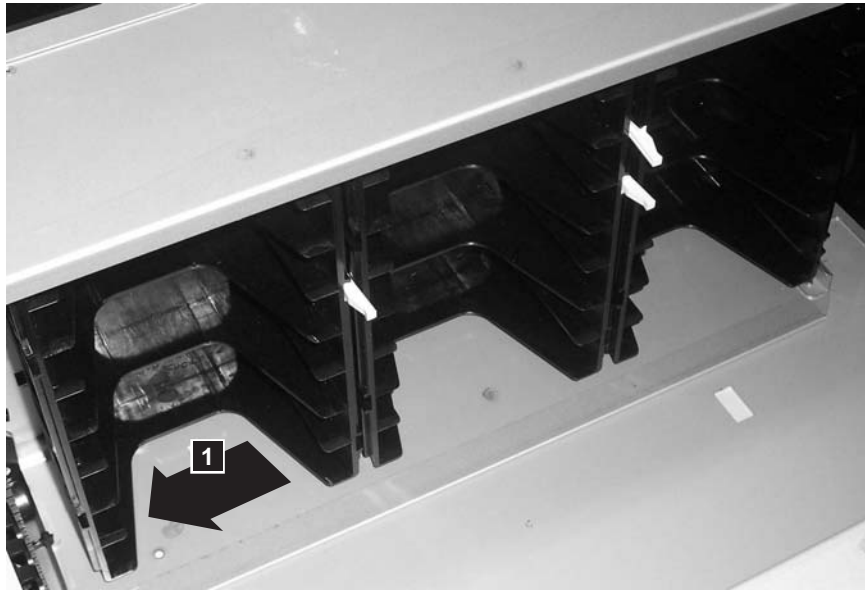

Figure 8-38. Removing a storage column
- Pull the storage column toward the front of the library (1 in Figure 8-38) to disengage the locking tabs on the back of the column.